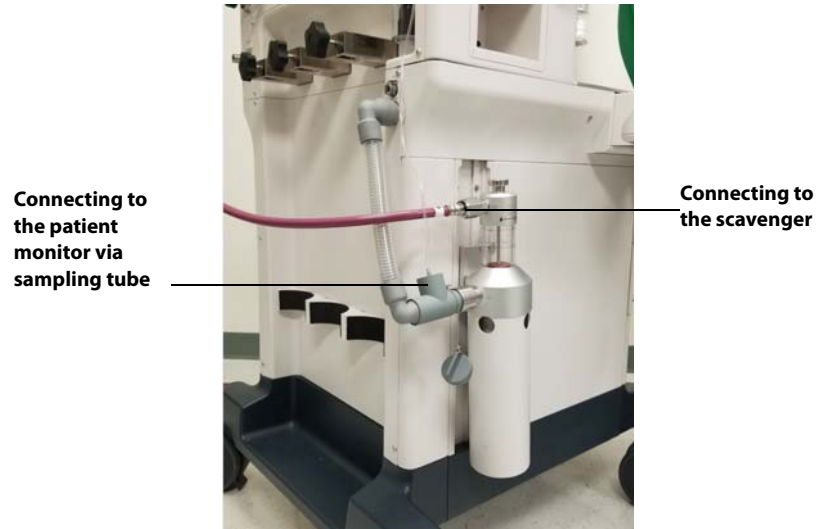

FIGURE 2-28
- 48.** When both the patient monitor and ACGO circuit need to scavenge the gas to the AGSS, use two adapters (one adapter as FIGURE 2-27 and one adapter as FIGURE 2-28) as shown below.